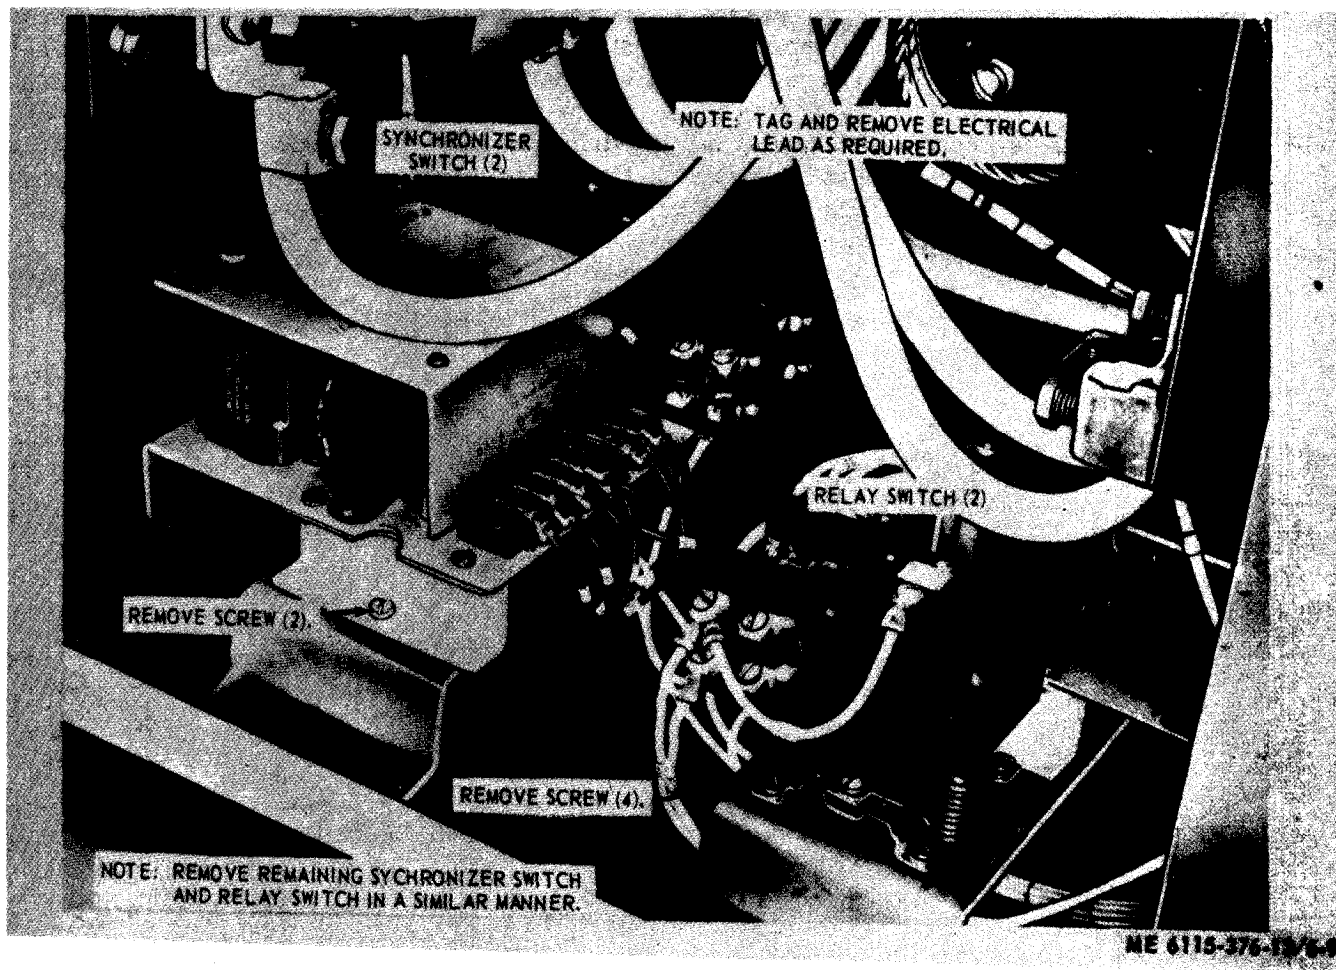

Figure 6-9. Relay switch assembly and electronic synchronizer switch assembly, removal and installation.
g. Relay Switch Removal, Inspection and Installation. Remove rear access panel, refer to figure 6-9, tag and disconnect electrical leads as necessary; remove four mounting screws and remove relay switch. Inspect all parts for damaged threads, cracks, breaks or other obvious defects. Replace a defective relay switch. Install relay switch in reverse order of removal; install rear access panel.
h. Electronic Synchronizer Switch. The synchronizer assembly contains two electronic synchronizer switches of solid state design each consisting of three plug-in type modules, two transformers, transistors, diodes and capacitors. Remove rear access panel. Refer to figure 6-9, tag and disconnect electrical leads; remove two mounting screws and remove electronic synchronizer. Inspect all parts for cracks, breaks, loose connections, and other obvious defects. Replace a
defective electronic synchronizer switch. Install electronic synchronizer switch in reverse order of removal (fig. 6-9). Install rear access panel.